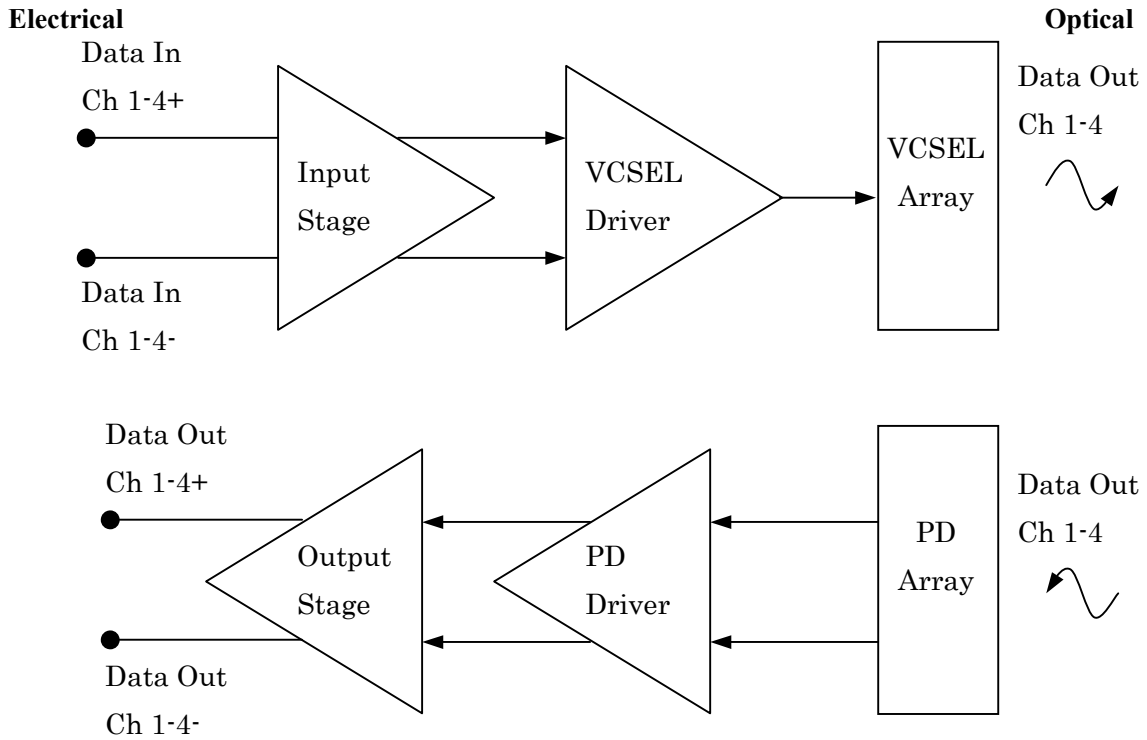

Figure 1: Functional Block Diagram
2. Optical Modulation Amplitude (OMA) is provided to specify link performance. OMA can be related to average power and extinction ratio using the graph in Figure 1. The minimum ER emitted by the transmitter is 4 dB.
4. Total contributed jitter (TJ) is given assuming detected bit-error ratio equal to 10^{-12} .